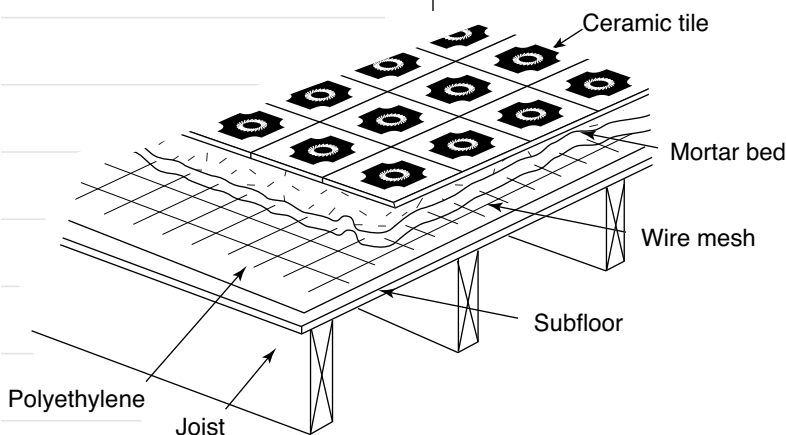

FIGURE 32
- ◆ The Terrazzo, Tile and Marble Association of Canada recommends that, when a mortar bed is used, a polyethylene film be installed over the subfloor followed by a 50 x 50-mm (2 x 2-in.) galvanized wire mesh and then a 32-mm (1-1/4-in.) bed of mortar (see Figure 32).